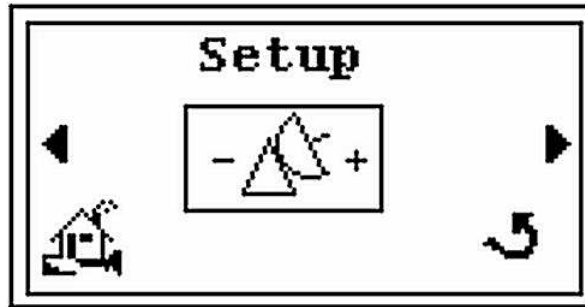

Figure 2-40 Setup Screen
3. Press the ► and the *Setup* screen appears (Figure 2-40).